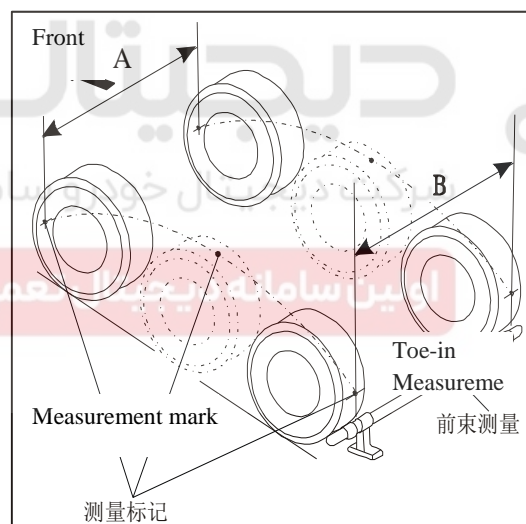

Figure 4-55 Wheel Toe-in Measurement
- 2) As indicated in Figure 4-55, on rear of each wheel, make a mark on tread center line (on wheel tread) in height of shaft center line.
- 3) As indicated in Figure 4-55, measure the distance B between two marks.